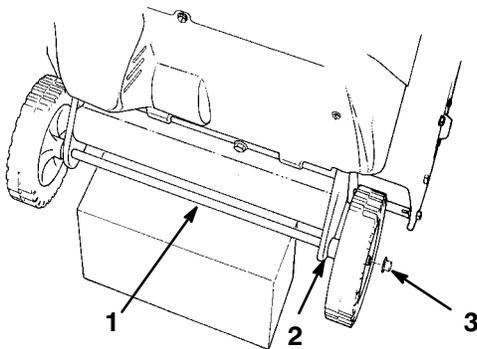

Figure 2
1. Place a wood block under the axle for support (Fig. 2).
2. Slide a spacer and wheel onto the axle (Fig. 2).
3. Slide a pushnut onto the end of the axle (Fig. 2).